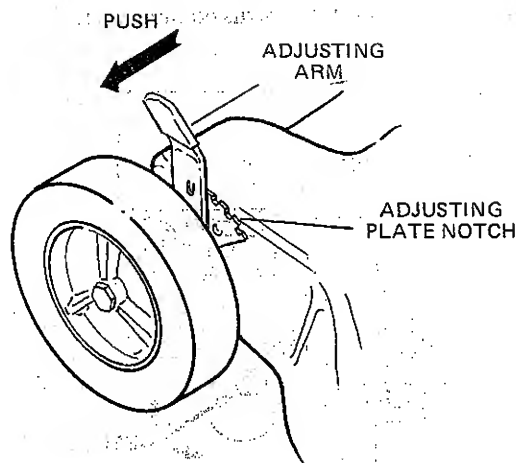

Figure 10
1. Lift front or rear of mower a few inches off of ground and push adjusting arm (Figure 10) out of adjusting plate notch toward wheel.